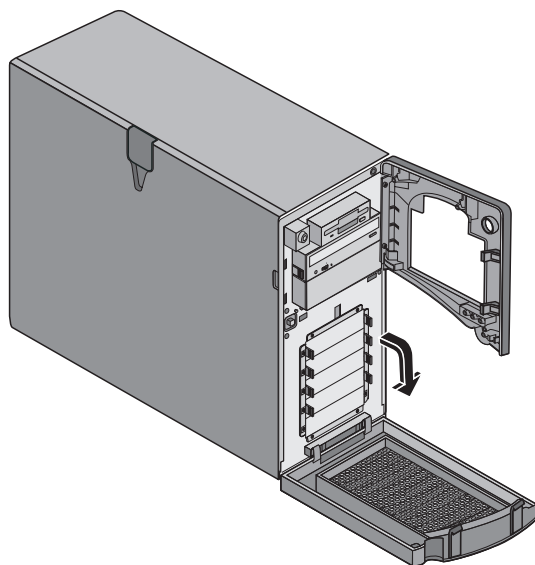

Figure 2-3: Lower bezel (open)
- The SCSI hard drives are accessible from the front lower bezel. Refer to Figure 2-3.
3. Press down on the two tabs at the top of the lower bezel, pull the bezel toward you, and lower the door. Refer to Figure 2-3.